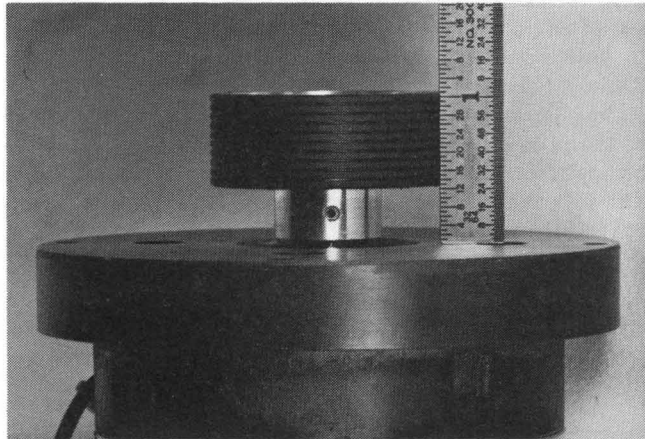

Figure 4-1. Capstan Position
- d. Place the capstan on the motor shaft and using a scale with 1/64-inch graduations, position the front edge (top) of the capstan 1-1/32 ($\pm 1/64$) inch from the motor mounting surface. (See figure 4-1.)